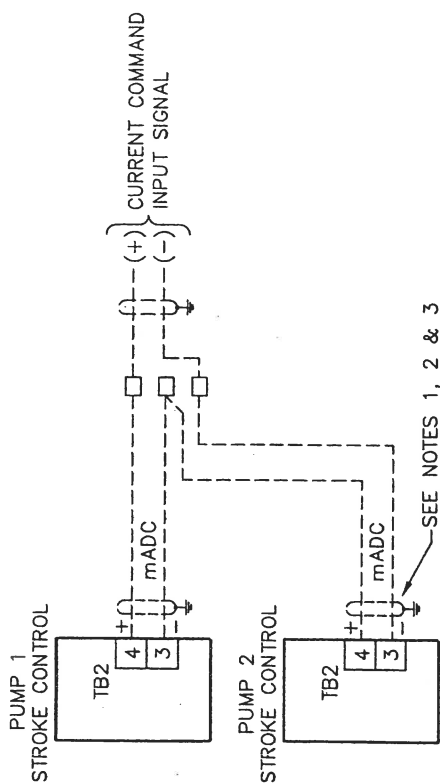

FIGURE 5A SERIES WIRING - CURRENT INPUT
- 3.8.1 SERIES WIRING of multiple Stroke Controller-Positioners is illustrated in Figure 5A. Only active Stroke Controller-Positioner need be energized. This circuit is frequently used where one of the pumps is an inactive "Stand-By". The maximum quantity of Stroke Controller-Positioners that can be wired "in series" is a function of the remote signal source, its power supply and the possible presence of other loop instrumentation. If evaluating loop capacity using resistance, add 200 ohms for each Stroke Controller-Positioner. If evaluating loop capacity using voltage, add 4 volts for each Stroke Controller-Positioner.